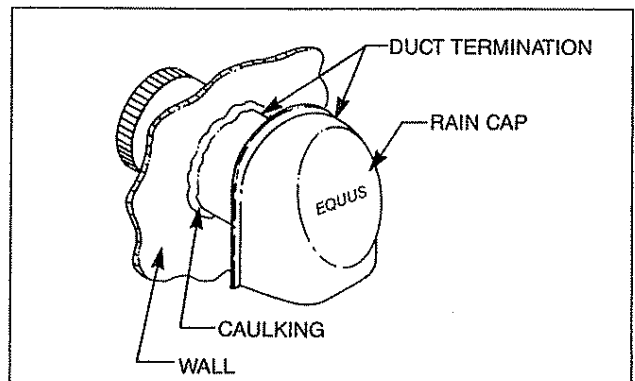

Fig. 32. Caulk and install duct termination/rain cap in place.
4. You are now ready to install the ducting to the collar on the outside air assembly. Attach the duct to the collar using three (3) screws (screws not provided). Continue attaching the ducting together using three (3) screws at each joint until you have installed sufficient duct to arrive at your duct termination location.
5. At the termination end, you should install the duct termination. This should be installed from the outside of the home and should be covered with the rain cap (the rain cap snaps on). Cut a hole in the desired location approximately 4½-inches in diameter, caulk around the hole and slide the termination with rain cap attached, through the opening from outside the home. The termination/rain cap should be caulked around its perimeter to assure a tight seal. The rain cap opening should be positioned downward. (See Fig. 32.).